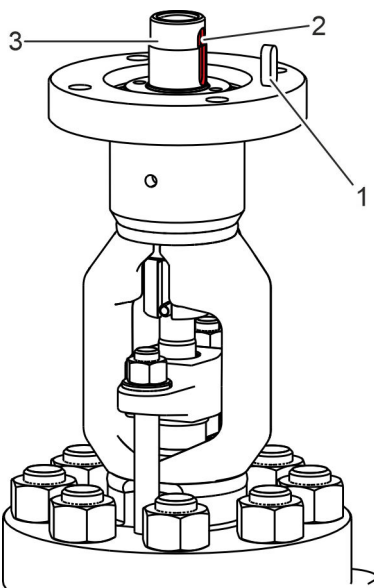

Fig. 38: Removing the feather key
4. ➤ Remove the feather key (Fig. 38/1) from the feather key groove (Fig. 38/2) of the hub (Fig. 38/3) of the threaded bush.